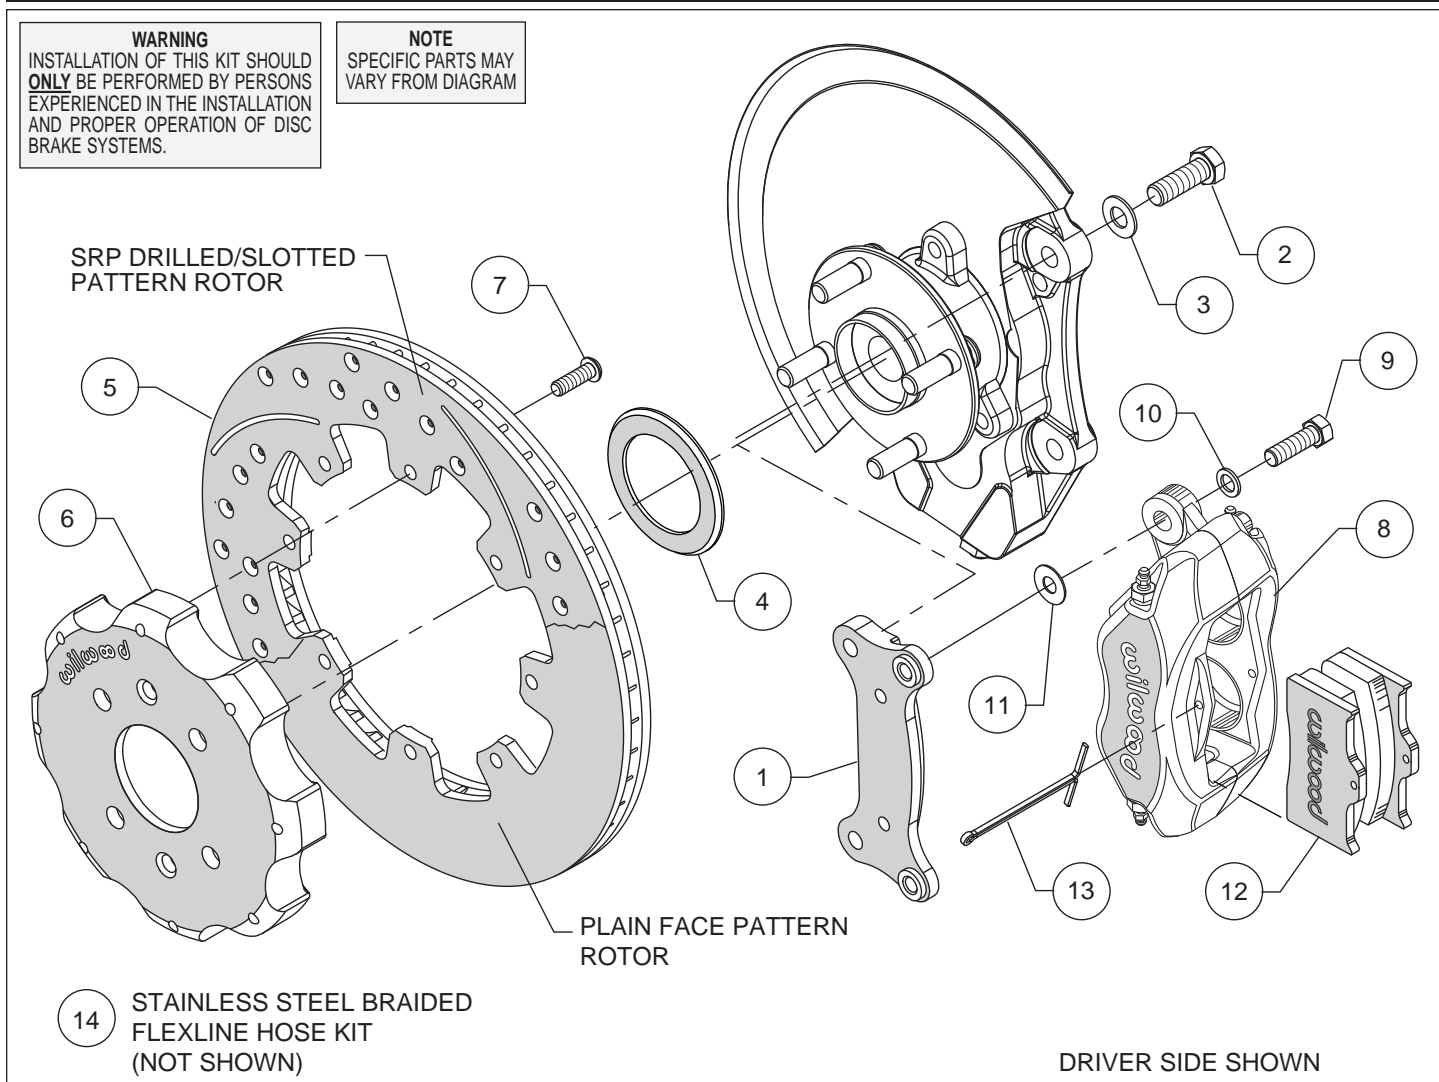
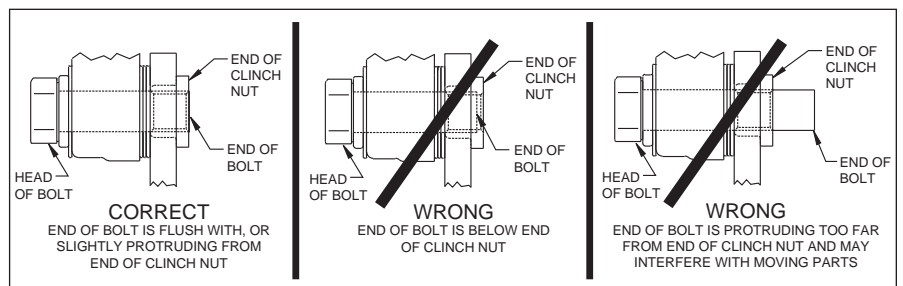

Figure 1. Typical Installation Configuration
Figure 3. Clinch Nut Engagement Diagram
**Assembly Instructions** (numbers in parenthesis refer to the parts list and Figure 1 on the preceding pages): **CAUTION:** All mounting bolts must fully engage clinch nuts. Be sure to check that all bolts are either flush or protruding through flanged side of clinch nut after shimming, Figure 3.
- Orient the caliper mount bracket (1) as shown in Figure 1 and Photo 1, and install using bolts (2) and washers (3). Ensure that the flanged heads of the clinch nuts in the bracket are facing outboard, Photo 1. Temporarily tighten the mounting bolts. **NOTE:** The bracket must fit squarely against the mount bosses on the upright. Inspect for interference from casting irregularities, machining ridges, burrs, etc. Remove bolts one at a time, apply red *Loctite*® 271 to the threads and torque to 60 ft-lb.
- Orient the rotor (5) and the hat (6) as shown in Figure 1 and Photo 2. Attach rotor to hat using bolts (7). Using an alternating sequence, apply red *Loctite*® 271 to the threads, and torque to 25 ft-lbs.
- Slide the rotor registration adapter (4) onto the axle register on the axle hub with the smaller O.D. facing toward the rotor/hat (5/6), Photo 3. Slide the hat/rotor assembly onto the axle hub. **NOTE:** The hat must fit flush against the axle hub flange or excessive rotor run out may result. Install three lug nuts (finger tight) to keep the hat/rotor assembly in place while continuing with the installation.
- **NOTE:** Please reference the caution statement at the beginning of the assembly instructions. Mount the caliper (8) onto the caliper mounting bracket (1) using bolts (9) and washers (10), as shown in Figure 1. Initially place one .035" thick shim (11) on each bolt between the caliper and the bracket, Photo 4. Temporarily tighten the mounting bolts and view the rotor (5) through the top opening of the caliper. The rotor should be centered in the caliper, Photo 5. If not, adjust by adding or subtracting shims between the bracket and the caliper. Always use the same amount of shims on each of the two mounting bolts. **NOTE:** The end of each bolt must be flush with or slightly protruding from the head of the clinch nut, as shown in Figure 3. If necessary place spare shims between washer (10) and caliper mounting ear to achieve the proper clinch nut engagement. Once the caliper alignment and clinch nut engagement are correct, remove the bolts one at a time, apply red *Loctite*® 271 to bolt threads, and torque to 40 ft-lb.